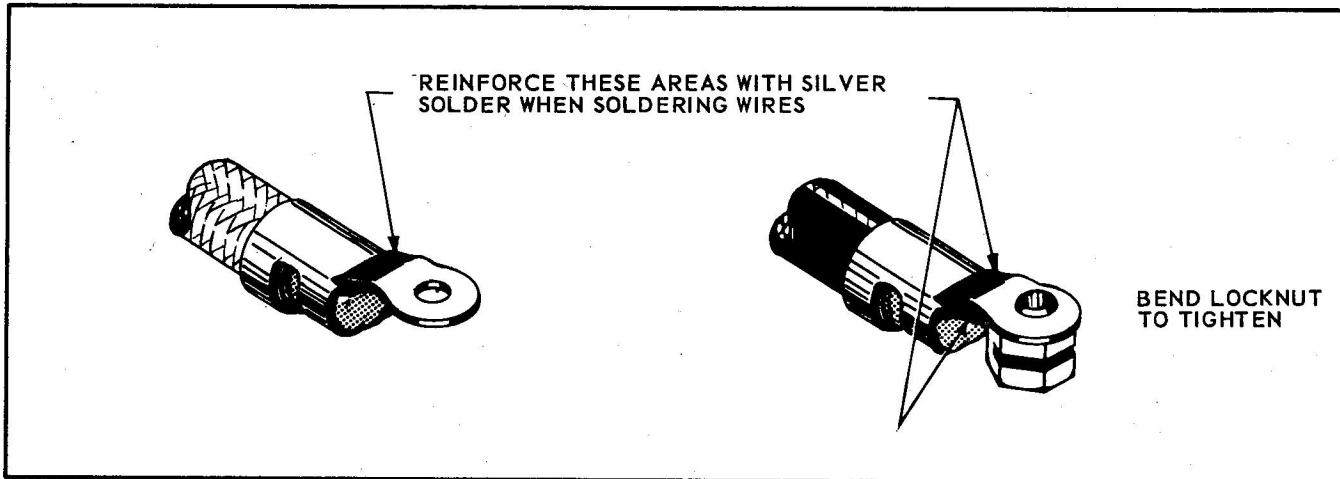

Figure 6-13. Reinforcing Solder on "AN" 5539 Terminals
- c. When solder has flowed down into wire grip, remove flame and allow joint to cool without disturbing it. Note that AN 5539 terminals require reinforcement with silver solder at indicated areas. See Figure 6-13.